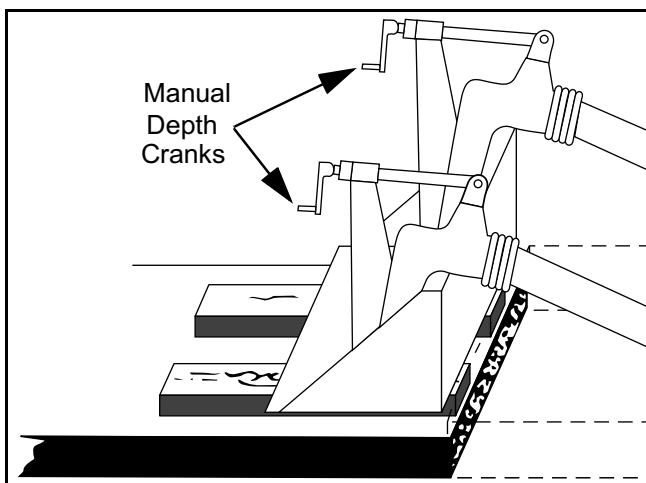

Figure 4 - 18 Nulling the Screed
- 2) Place the boards under the screed as illustrated. Attention should be placed on the grade conditions where the boards will be placed. If a board is placed on a high point or a depression, a false null setting will occur. Additional boards may be needed if you are paving at extended widths to provide support for the screed extensions. (Figure 4 - 18)